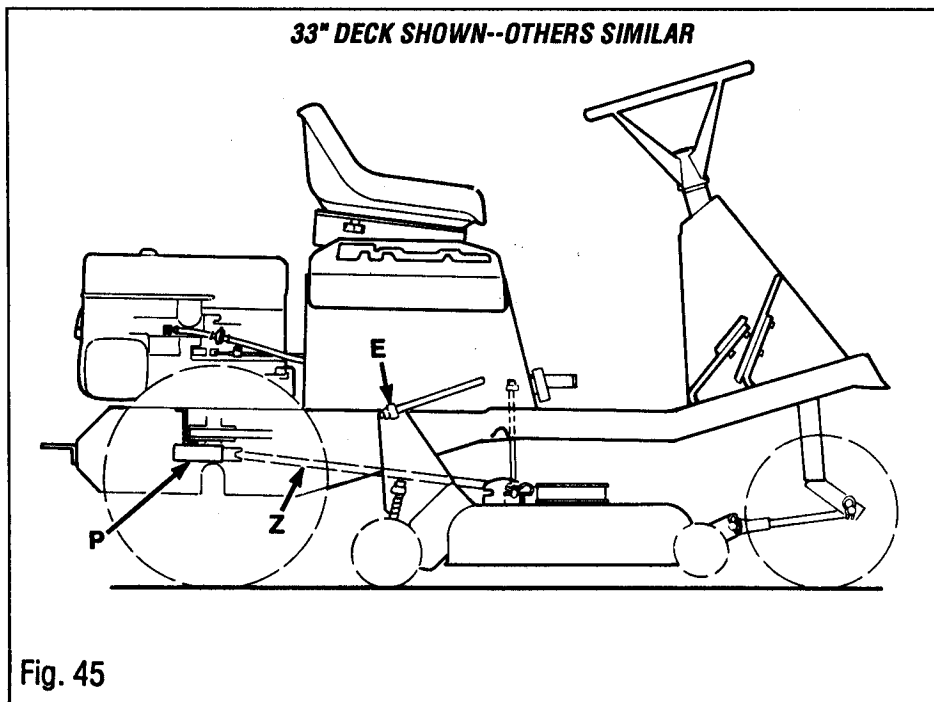
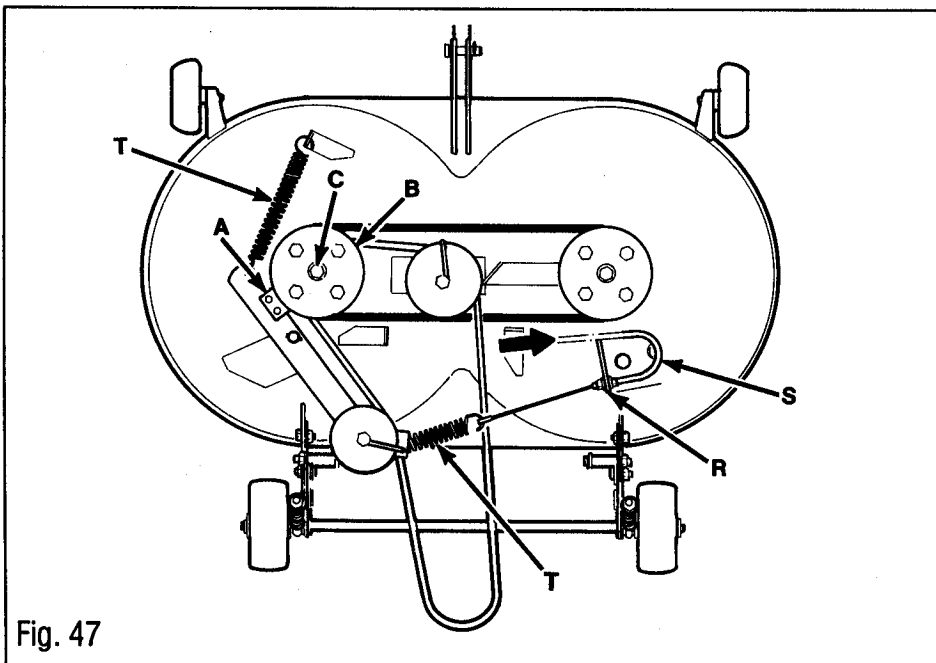
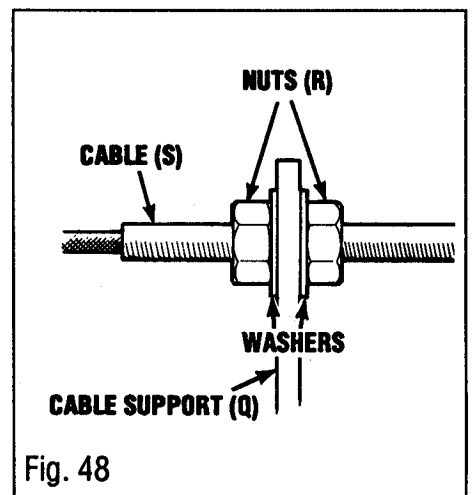

Fig. 45
Fig. 47
Fig. 48
7. Re-tighten belt guide (H) $1/16"$ (.15 cm) away from drive belt.
8. With the mower in the highest setting, check clearance between belt at point (AA). If there is not at least a 1" (2.5 cm) gap, move mower ahead by adjusting pivot location on lift arms (E, Fig. 45). It may be necessary to adjust rod (A, Fig. 45) to level mower.
9. With mower blade drive engaged, belt guide (Y) should not contact drive belt.
1. Loosen belt guides (A & B Fig. 42 and (P, Fig. 45).
2. Rotate idler arm (C) away from pulley (R). Replace belt (Z) with new belt.
3. Route belt between idler (Q) and belt guide (A). Place guide (A) in approximate position shown and secure.
4. Place new belt into groove of stationary idler (E) and secure belt guide (B) in rear of slot as shown.
5. Place new belt into groove of engine pulley and assemble belt guide (P, Fig. 45) as far forward as possible. Re-tighten guide (P). Check clearance between guide (P) and bolt heads on differential. A gap of $1/8"$ should exist.
7. With the mower in the highest setting, check clearance between belt at point (AA, Fig. 44). If there is not at least a 1" (2.5 cm) gap, move mower ahead by adjusting pivot location on lift arms (E Fig. 45).
4. Secure belt guide (S) and idler in rear of slot as shown.
6. Position guide (J) through hole in bottom of plate and secure in place.
7. Place new belt into groove of engine pulley and slide belt guide (P, Fig. 45) as far forward as possible. Re-tighten guide (P). It may be necessary to rotate differential to assemble belt. After assembly, check clearance between guide (P) and bolt heads of differential. A gap of 1/8" should exist.
9. With the mower in the highest setting, check clearance between belt at point (AA). If there is not at least a 1" (2.5 cm) gap, relocate idler (X) as far ahead as possible. If more adjustment is needed, move mower ahead by adjusting pivot location on lift arms (E, Fig. 45).
28" Decks Adjust the mower drive cable end (S, Fig. 42 and S, Fig. 48 on the following page) or move mower back by adjusting pivot location on lift arms (E, Fig. 45). Repeat this test until belt does not move. Check mower leveling after adjusting pivot (E).
1. Loosen belt guides (J & S, Fig. 44 and P, Fig. 45).
33" & 36" Decks Adjust the mower drive cable end (S, Figs. 42 & 44 and S, Fig. 48 on the following page) or relocate the adjustable pulley (B, Fig. 42 or X, Fig. 44) within its slot on the idler support bracket. If further adjustment is necessary, move mower ahead by adjusting pivot location on lift arms (E, Fig. 45). Repeat this test until belt does not move. Check mower leveling after adjusting pivots (E).
2. If brake pad (A, Fig. 47) does not squarely contact both top and bottom surfaces of pulley (B), re-position pulley (B) as follows:
3. Adjust cable (S, Figs. 48 & 49) at nuts (R, Fig. 47 & 48) so there is a slight slack in spring (T, Fig. 47). *WHEN ADJUSTED, SPRING (T) SHOULD NOT BE UNDER TENSION*
4. If blade still does not stop within 5 seconds after the mower drive has been disengaged, replace brake pad (A, Fig. 47).
3. Adjust cable (S, Figs. 48 & 49) at nuts (R, Fig. 48) so there is a slight slack in spring (T, Fig. 44). *WHEN ADJUSTED, SPRING (T) SHOULD NOT BE UNDER TENSION*